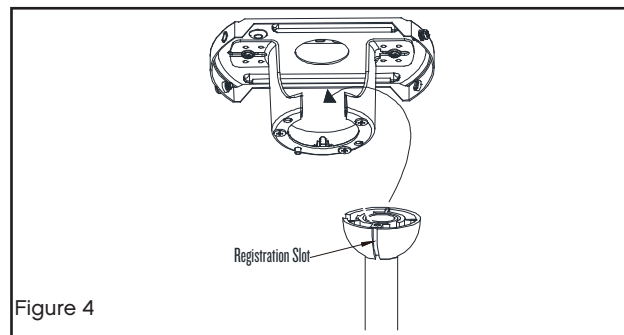

Figure 4
**NOTE:** The tab opposite hanger bracket opening should fit in slot on ball. (Fig. 4)